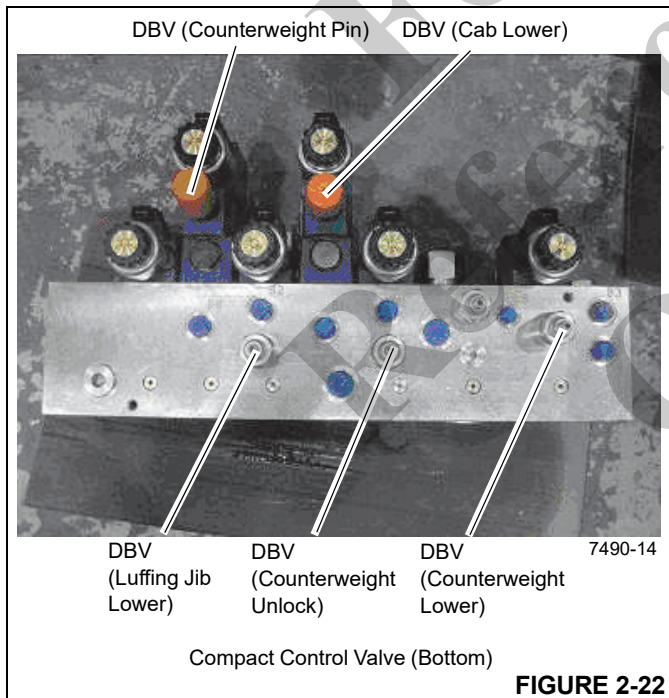

FIGURE 2-22
3. If necessary, adjust pressure at DBV (counterweight lower) to 1523 ± 25 psi (105 ± 2 bar) (Figure 2-22).
5. If necessary, adjust pressure at DBV (counterweight unlock) to 2393 ± 50 psi (165 ± 4 bar) (Figure 2-22).
3. If necessary, adjust pressure at DBV (cab lower) to 798 ± 25 psi (55 ± 2 bar) (Figure 2-22).
3. If necessary, adjust pressure at DBV (luffing jib lower) to 4134 ± 50 psi (285 ± 4 bar) (Figure 2-22).
3. If necessary, adjust pressure at DBV (counterweight pin) to 1378 ±25 psi (95 ±2 bar) (Figure 2-22)